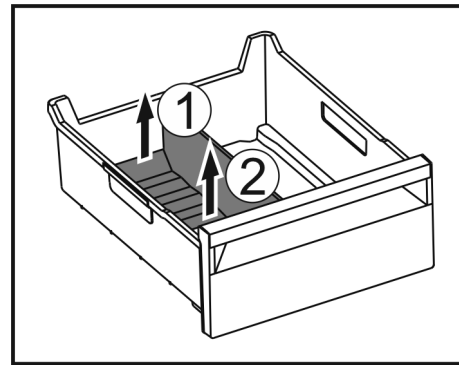

Fig. 134
- ▶ Lift the rear part of the ice compartment divider. Fig. 134 (1)
- ▶ Remove the ice compartment divider upwards. Fig. 134 (2)